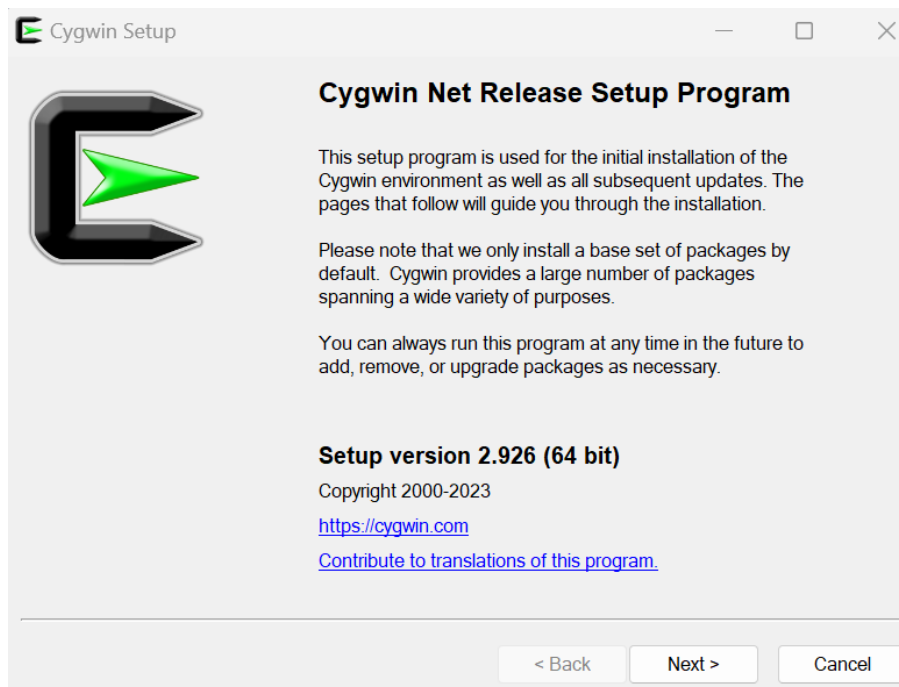

Figure 83. Cygwin installation window
2. Execute the setup file in your machine by double-clicking on it (Figure 83).